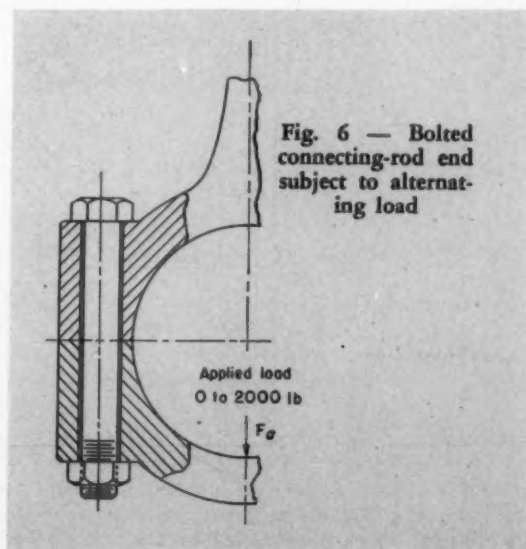

Fig. 6 — Bolted connecting-rod end subject to alternating load
**CONNECTING-ROD BOLT:** A practical example of a bolted assembly, which is readily analyzed, is the connecting rod or link end shown in Fig. 6. The cylindrical portion of the rod end around the bolt, which is compressed by the tightening, may be assumed to be a hollow cylinder of uniform cross-sectional area. From the familiar equation for elastic deformation,  $\delta = Fl/AE$ , the unit deflection or stretch per unit load for the bolt is
Fig. 7—Bolt load versus setting-up load for the assembly shown in Fig. 6 when subjected to an alternating external load from 0 to 2000 lb. Optimum setting-up load of 1672 lb results in minimum total equivalent static load on bolt equal to 2348 lb. Actual setting-up load should be somewhat higher to provide safe margin against joint opening
**EXAMPLE 1:** The connecting rod end in Fig. 6 is subjected to an externally applied load which varies from 0 to 2000 lb. Each bolt is a  $\frac{1}{2}$ -20 NF with shank area 0.196 sq in., root area 0.149 sq in., stress-concentration factor  $k = 2.5$ . The steel of which it is made has  $s_y = 35,000$  psi and  $s_e = 28,000$  psi. The cylindrical portion of the connecting rod surrounding each bolt has area 1 sq in. and the material also is steel. To what optimum load should the bolt be initially tightened?